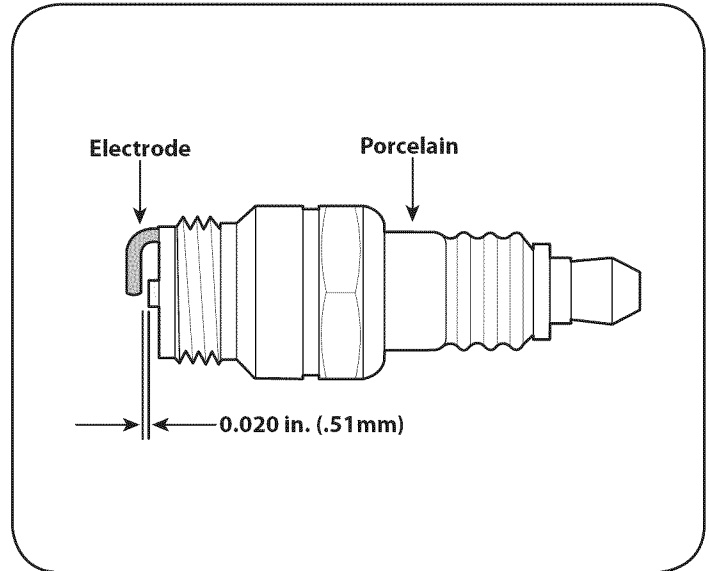

Figure 12
3. Check the gap with a wire gauge. See Figure 12. Spark plug gap should be 0.020 in (0.51 mm). If necessary, reset the gap.